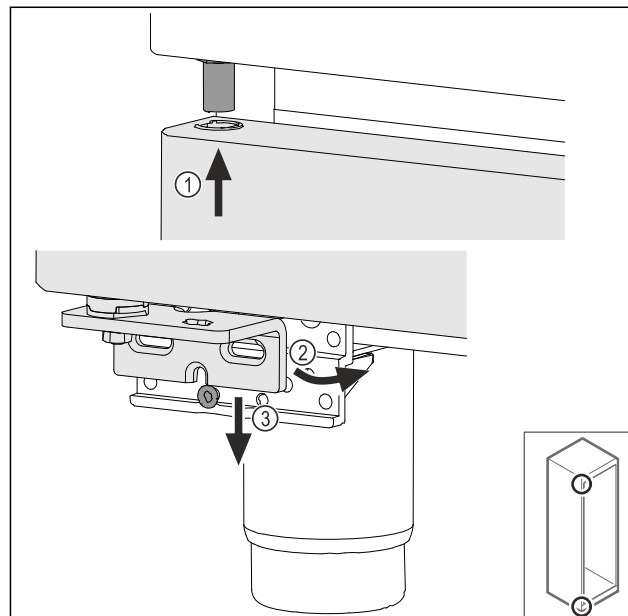

Fig. 66
- Feed in the door slightly tipped at the top Fig. 66 (1), align the door straight Fig. 66 (2) and fit the swap bearing block screw Fig. 66 (3) at the bottom.